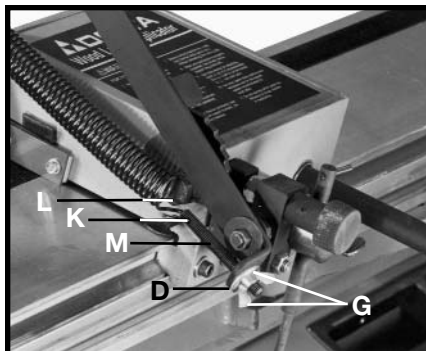

Fig. 41
5. Attach free end of tension spring (L) Fig. 41 through the hole in end of threaded rod (M). Carefully apply tension to spring (L) and insert end of threaded rod (M) through hole in lip of handle assembly (D). Fasten with flat washer and wing nut (E) (removed from handle assembly (D) in **STEP 1**). Correct spring tension is determined by the operator and can be adjusted later.